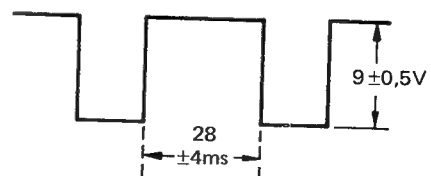

Figure 8-5.
2. Monitoring IC701 pin 6 with an oscilloscope (internal trigger), check that the requirements given in Figure 8-5 are met.